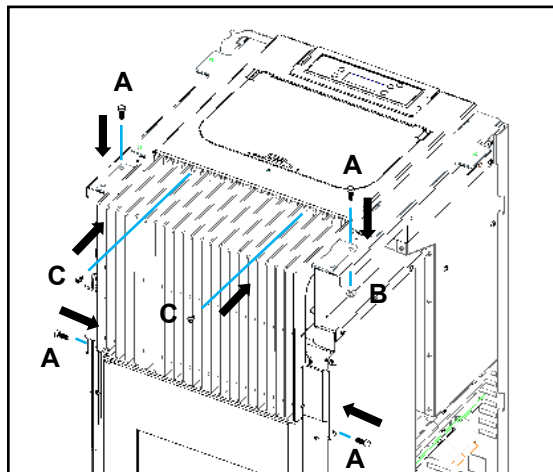

Figure 34 - Front grille tightening
c) In the upper part of the grate, fasten with two screws **C** (DIN 7981 4,2x9,5) directly to the cover previously placed, then fix with two screws **A** (DIN 912 M5x12) and use nuts **B** (Nuts M5 DIN 6923), finally , with two screws **A** (DIN 912 M5x12) attached to the lower part directly on the machine, as shown in Figure 34.